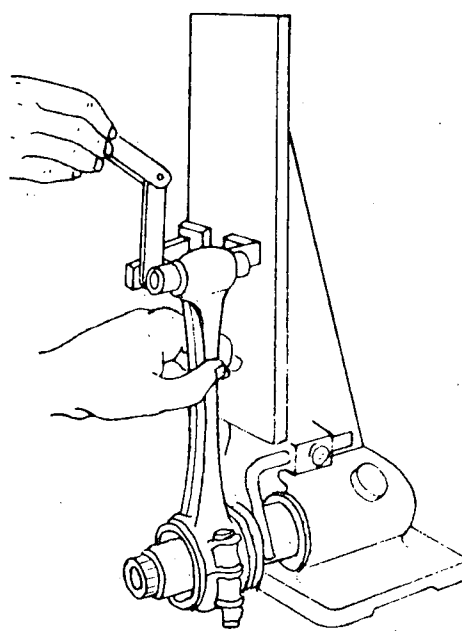

Fig. 4
c) Check the vertical alignment of the connecting rod (fig. 4).